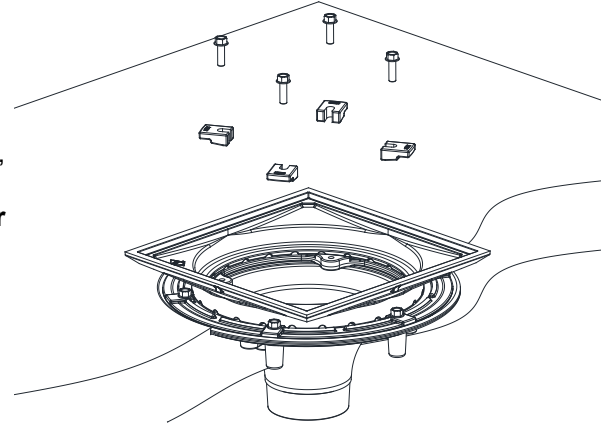

Fig 3
Step 5 - Place the four clamp dogs on top of the bottom rim of the frame and align the slots in each clamp dog with the tappings in the clamping collar. Insert a bolt through each clamp dog slot and thread into the clamping collar. (Fig. 3) Hand-tighten the bolts until final alignment adjustments are made to the frame. Once the frame is in proper position, tighten the four clamp dog bolts down to a torque of 20-25 ft-lbs.